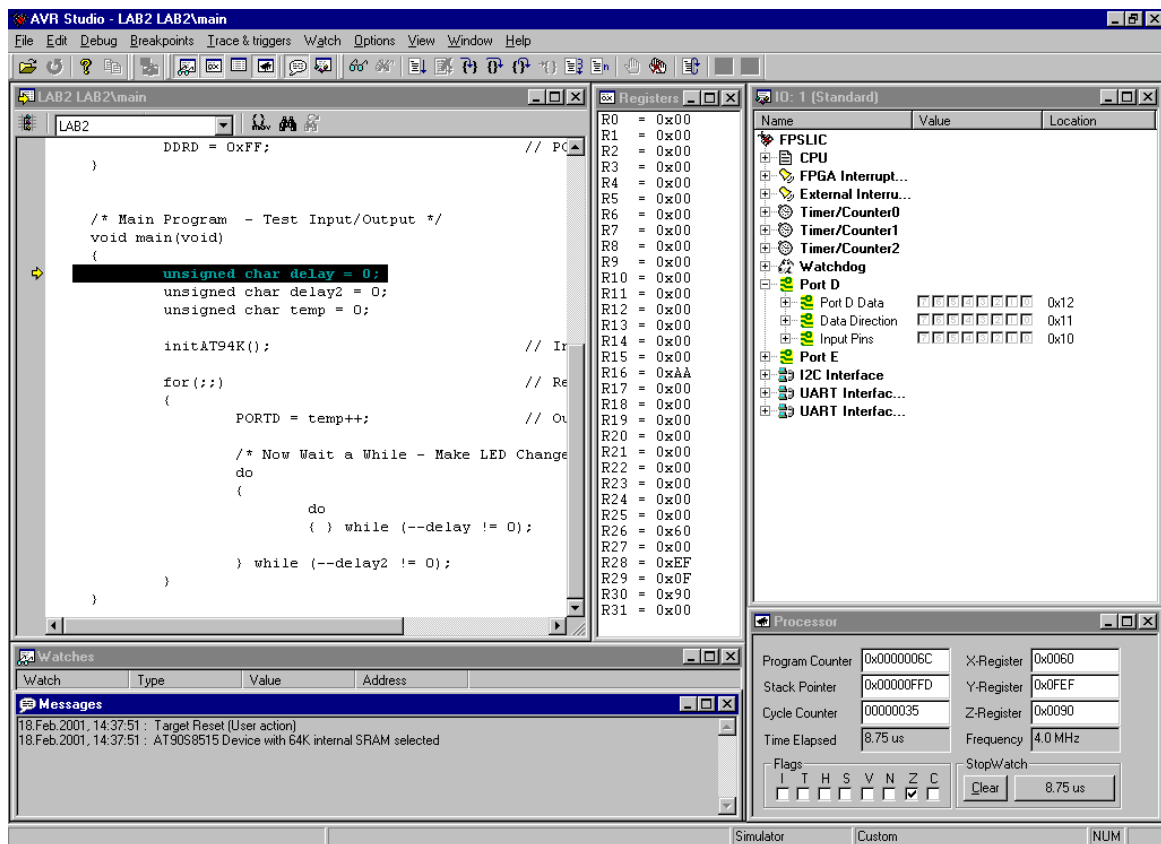

Figure 5: AVR Studio
3. Open the following additional views and arrange them as shown in **Figure 5**. This is done from the "View" menu. If you are prompted for the location of the .AIO file navigate to C:\SYSTEMDESIGNER\BIN\FPSLIC.AIO.